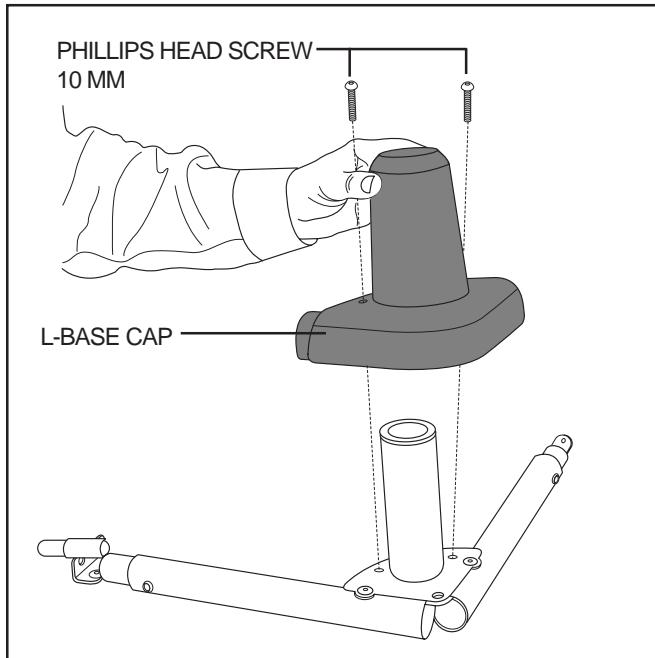

Figure 10. L-Base Cap
7. Place the L-base cap over the L-base and secure it with the supplied screws. **See figure 10.**